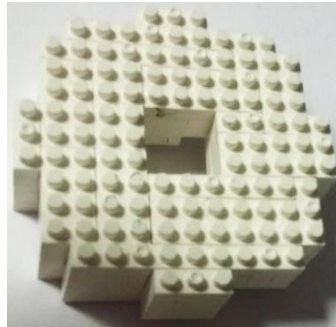

Figure 12 Stepped circular geometry of the dielectric ring
17. Build the dielectric resonator ring with white dielectric cells. The ring will be in stepped circular form as in the example in Figure 12.